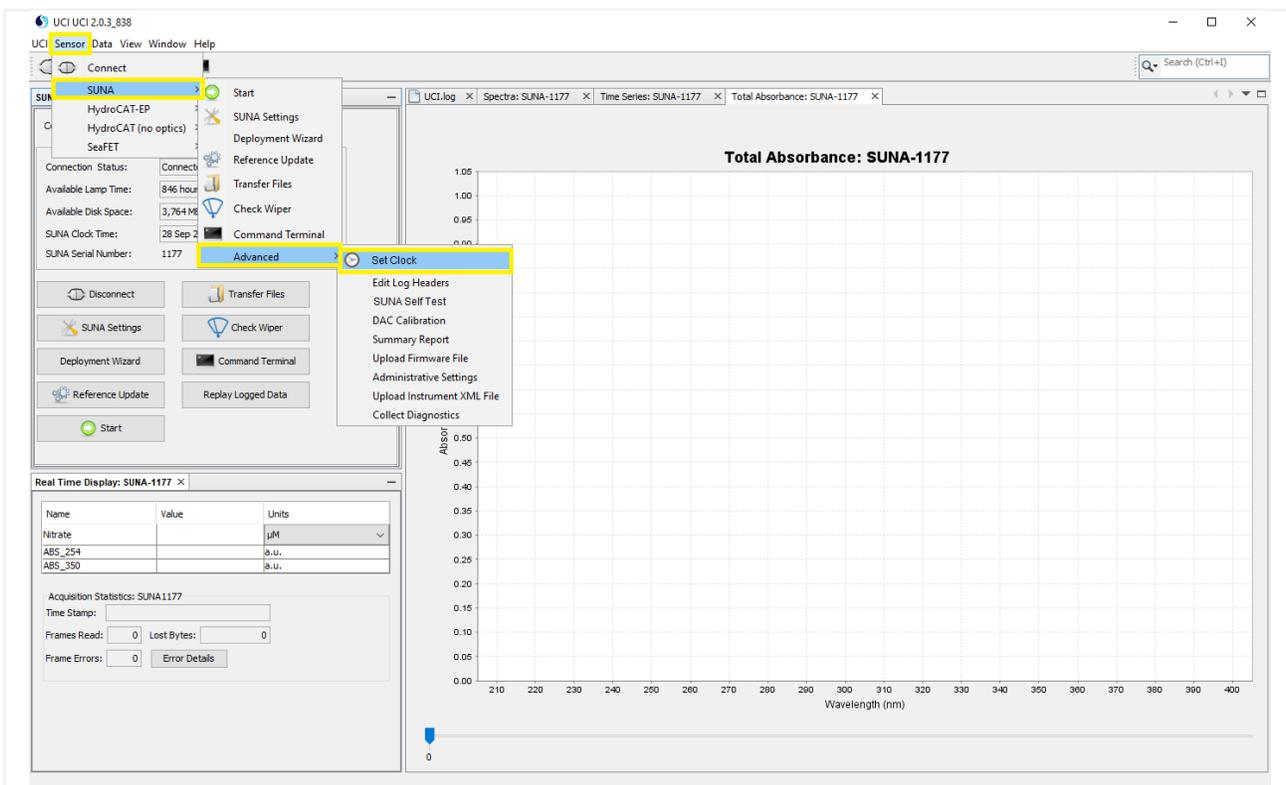

Figure 47. Use the "Sensor" Dropdown to Select "Set Clock"
**STEP 1** | From the main software window, use the “Sensor” dropdown menu to select **SUNA > Advance > Set Clock (Figure 47)**.